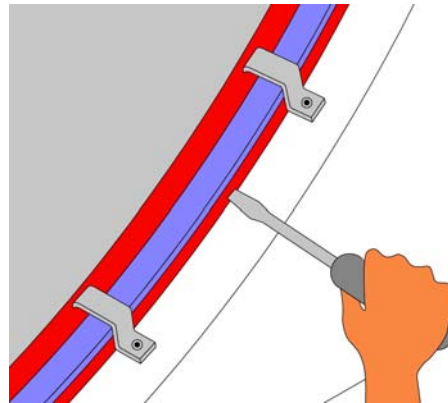

Figure 25
- The circumferential seals are held by spring clamps. The spring clamps are further secured by an additional spring steel sheet. The rubber seal is pushed gently up against the rotor with a screwdriver (Figure 25). The circumferential seal is pushed back slightly by the rotating rotor, thereby bringing it into optimal operational position.